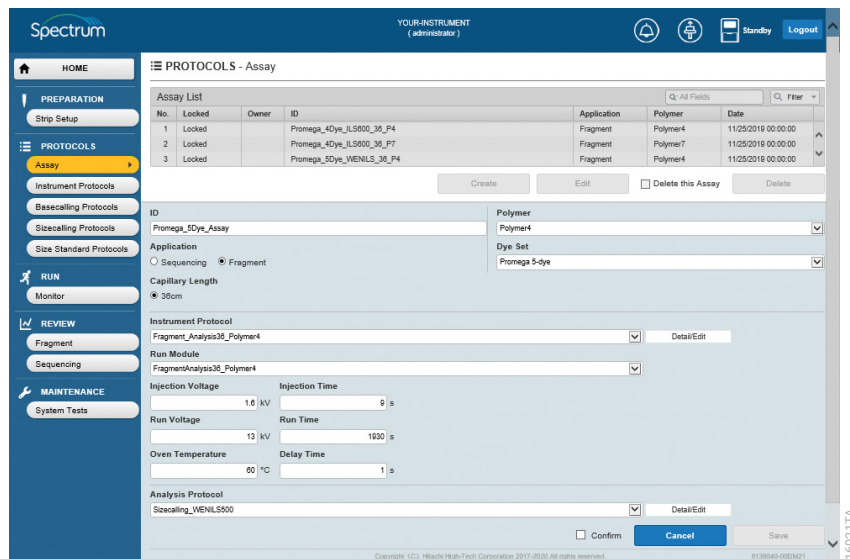

Figure 73. 'Assay' screen with editable instrument protocol fields.
6. Select the **Instrument Protocol** using the pull-down menu. **Detail/Edit** becomes active. After selecting **Detail/Edit**, the run module parameters may be edited as desired (Figure 73; see Section 5.1.1 for minimum and maximum values that can be entered for these parameters).